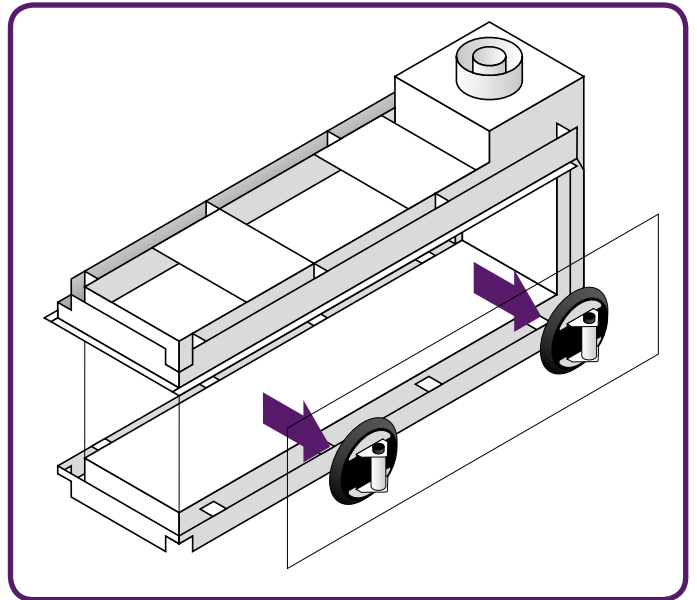

Figure 10.13 - Remove glass
- Lift the glass out of the lower glass rail and tilt it out through the opening, as seen in **Figure 10.13**.